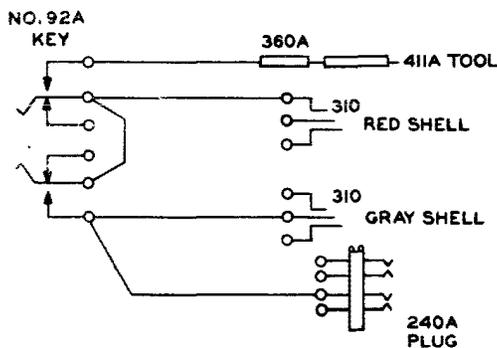

Fig. 1
- 2.11 Test cord, shown in Fig. 1, to be made up locally consisting of one No. 92A key, one No. 893 cord (1W13B cord) with one No. 360 tool removed, one W1W cord (1W7A cord) with the No. 59 cord tip removed, one W1B cord (1W5B cord) with the KS-6780 clip removed and one No. 411A tool (for connecting ground to A relay, and to the commutator segment of the trunk finder).
- 9 Insert red shelled plug of special test cord shown in Fig. 1 into 48-volt battery supply jack